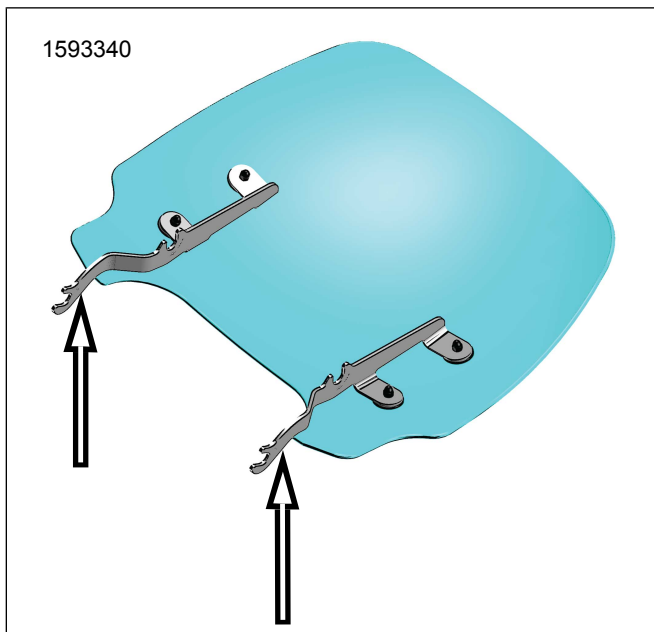

Figure 2. Windshield Mounting Brackets
1. Figure 2 Remove windshield sub-assembly from packaging.